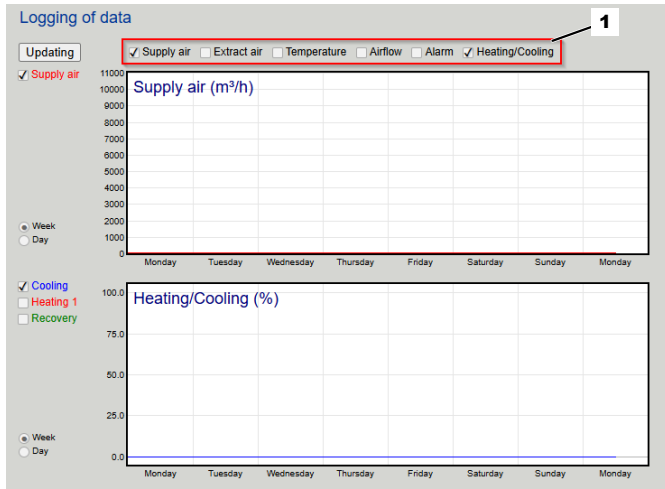

Fig. 37: Display of measured values
The measured values for the last 7 days or the last 24 hours can be displayed on the 'Logging data' screen ( Fig. 37 ). The following measured values can be displayed:
2. ▶ Click on the selection field to display the desired measured value ( Fig. 37 /1).